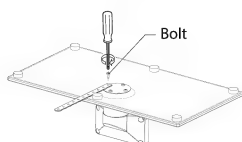

Figure 1
1. Screw out one bolt from the bottom part of the stand and screw in the stand safety element – see figure 1.